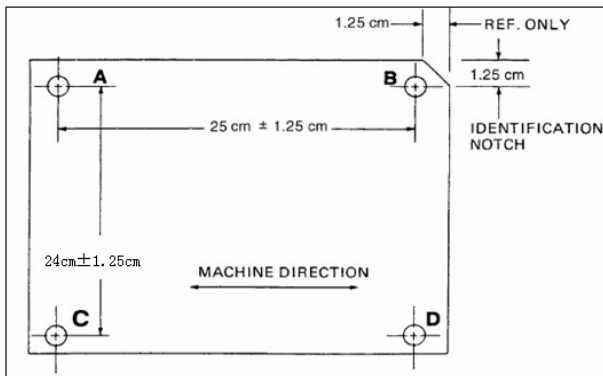

Figure 5: Test pattern of dimensional stability
Preparing the specimens such as figure 5
1. Punch holes (hole diameter is 4mm) at positions A through D in specimen at locations show in figure 5.
2. Measure separation of holes between corresponding positions (center of holes).For example,The distance between hole centers A-B and C-D, also A-C and B-D. Record as initial measurement (I).
4. Re-measure separation of holes and record as final measurement (F)